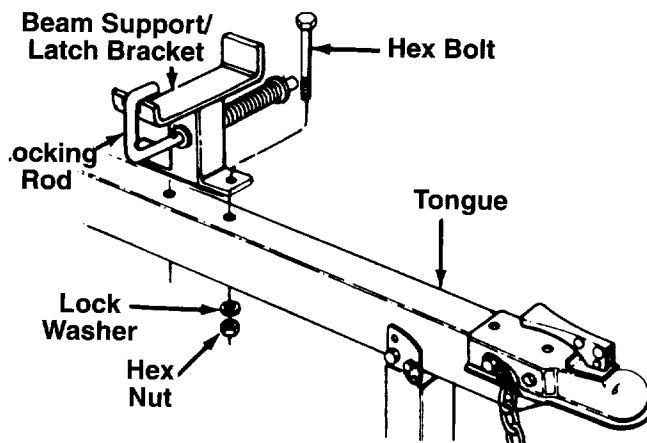

FIGURE 7.
2. Place the beam support/latch bracket on the tongue as shown in figure 7. Secure with hex bolts, lock washers and hex nuts just removed. Tighten securely.
1. Pull the locking rod on the beam support/latch bracket away from the log splitter tongue (refer to figure 7), and pivot it down. Carefully lower the wedge, beam and cylinder assembly to the horizontal position. Secure the beam with the locking rod.
2. Place the beam in either the horizontal or vertical position and lock in place with the appropriate locking rod. See figure 7 or 11.